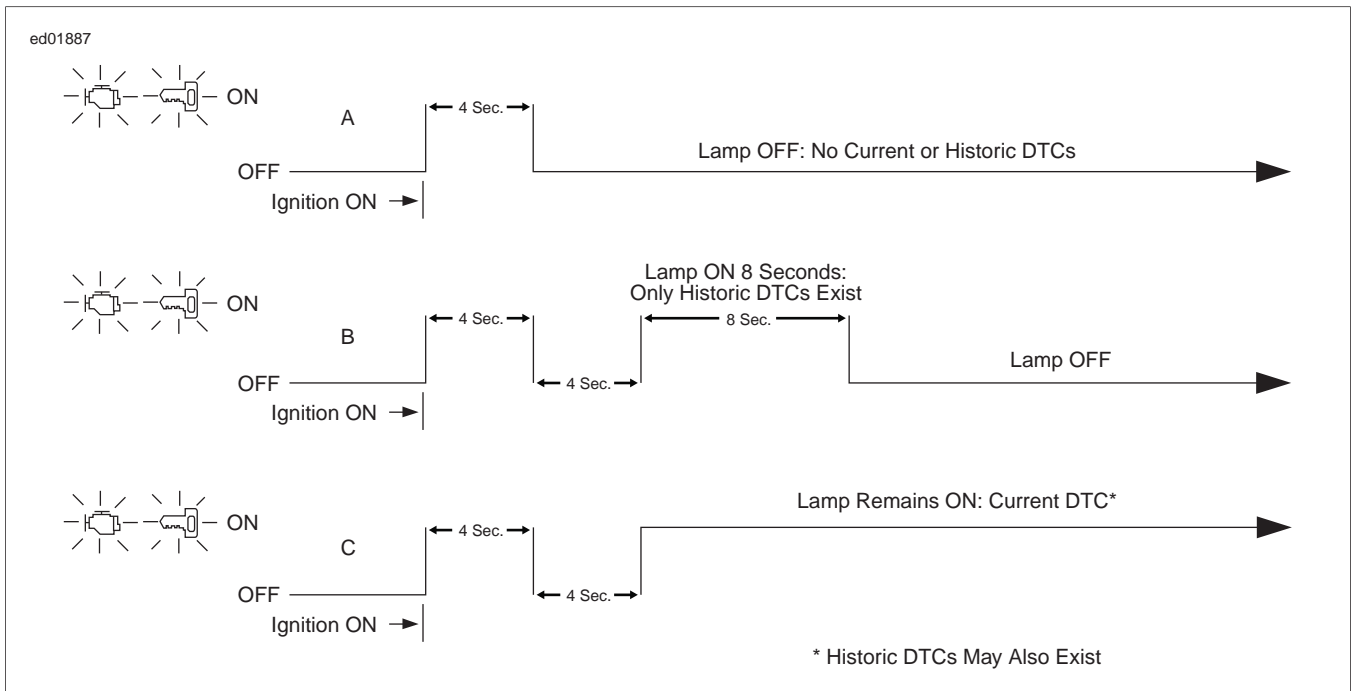

Figure 2-1. Check Engine Lamp and Security Lamp Operation
1. See Figure 2-1. After the check engine lamp turns off following the first four second illumination period, one of three events may occur.